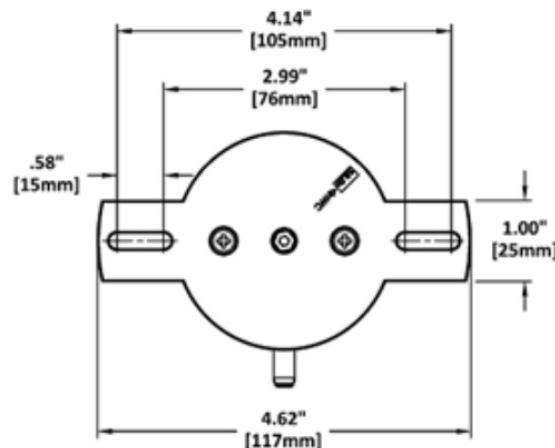

Figure 2 Integrated Mounting Foot Dimensions
2. Refer to Figure 2 for the mounting dimensions of the integral foot bracket. Using two slotted hex mounting screws (not included), mount the calibrated ANS2 switch via the integral foot bracket.